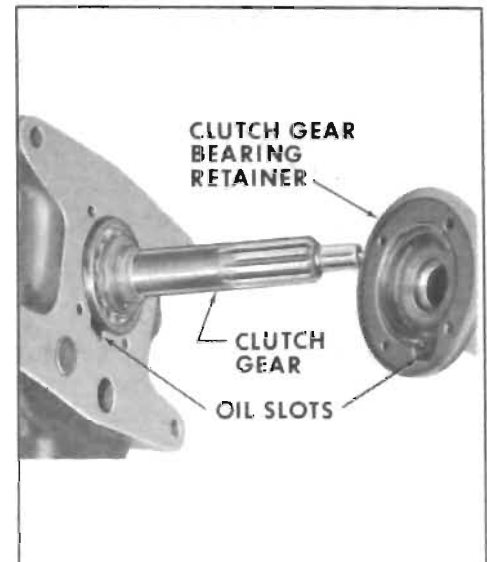

Figure 4-30—Clutch Gear Bearing Retainer Oil Slot
11. Install the clutch gear bearing retainer and gasket. Make sure the oil slot in the retainer lines up with the oil slot in the front face of the case. Do not allow the gasket to protrude beyond the edge of the retainer. See Figure 4-30.